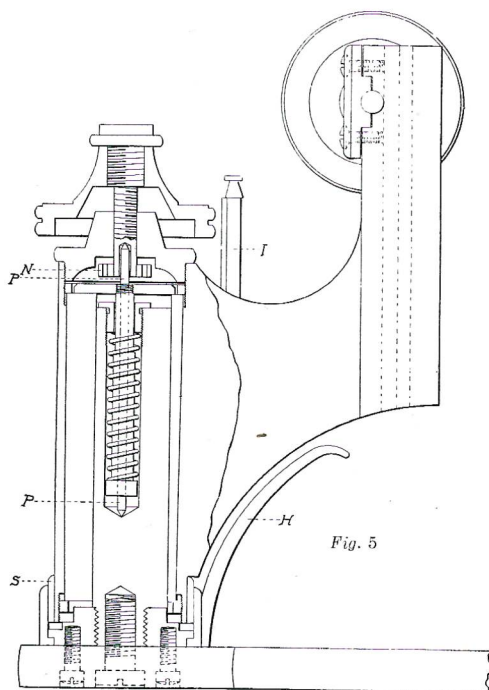

Fig. 5
**Fine Adjustment A** is represented in Nos. 30 and 40. The bearing surfaces inside of the arm are fitted extremely accurately by a special method of our own. The whole mechanism is self-contained and protected entirely from exposure to dust and dirt. Each division of the graduated fine adjustment head represents a movement of 5 microns. The indicator, I (Fig. 5), telescopes into the arm so that it is out of the way when not in use.